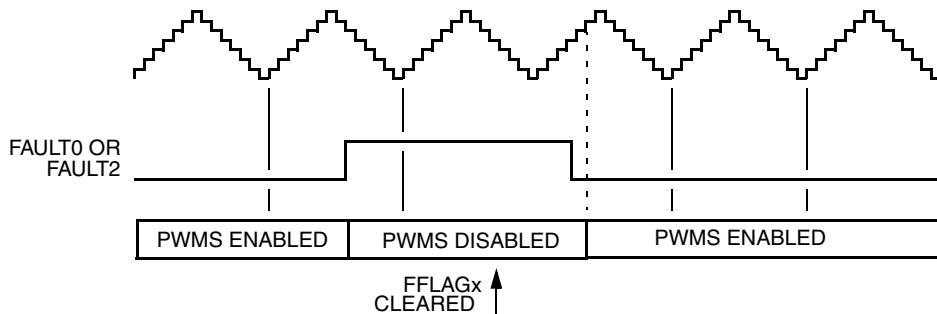
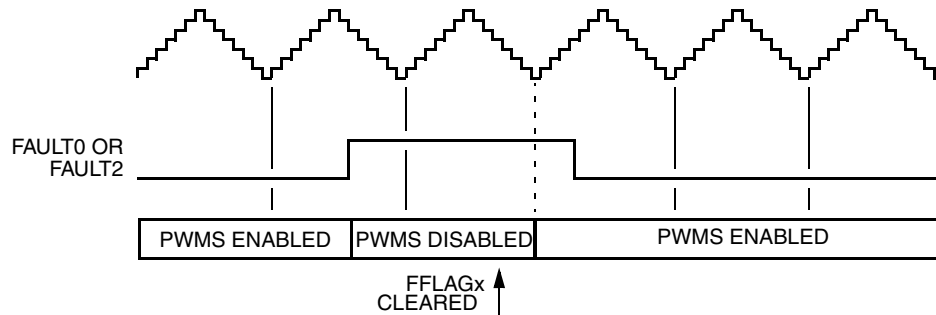

Figure 11-77. Manual Fault Clearing (Faults 0 & 2) — QSMP = 00
Figure 11-78. Manual Fault Clearing (Faults 0 & 2) - QSMP=01, 10, or 11
- PWM pins disabled by the FAULT₀ pin or the FAULT₂ pin are enabled by clearing the corresponding FFLAG_x flag. The time at which the PWM pins are enabled depends on the corresponding QSMP_x bit setting. If QSMP_x = 00, the PWM pins are enabled on the next IP bus cycle when the logic level detected by the filter at the fault pin is logic zero. If QSMP_x = 01, 10 or 11, the PWMs are enabled when the next PWM half cycle begins regardless of the state of the logic level detected by the filter at the fault. See Figure 11-77 and Figure 11-78.